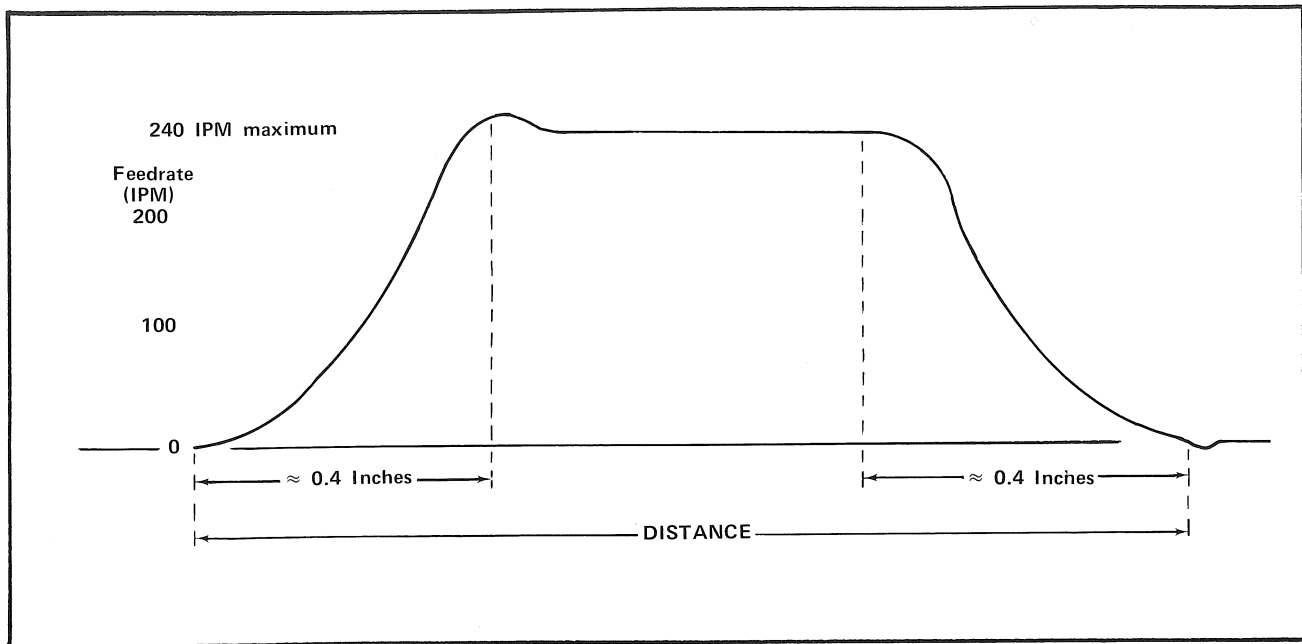

Fig. 1-2. Typical Acceleration/Deceleration curve of a 1701/1702 and machine system.
- e. Acceleration/Deceleration is automatically controlled (see Fig. 1-2).
Acceleration/Deceleration	Automatic (see Fig. 1-2)